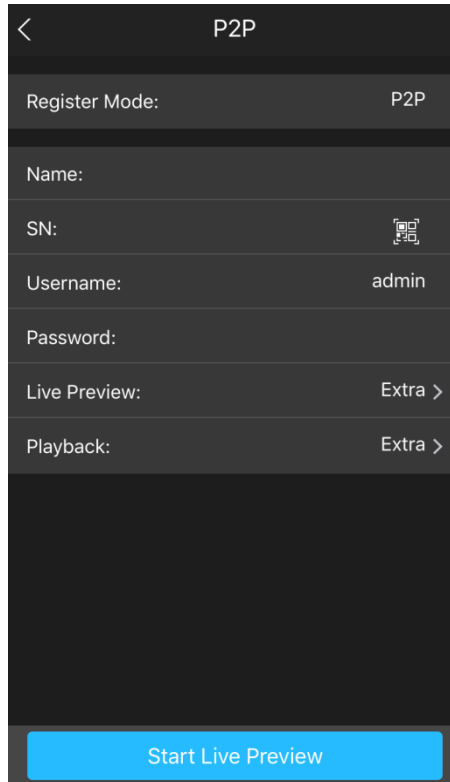

Figure 5-19
- The **P2P** interface is displayed. See Figure 5-19.